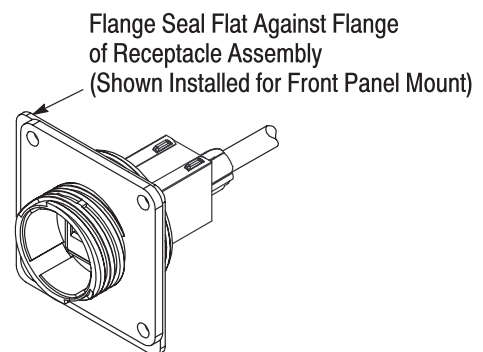

Figure 2
diameter end) of the receptacle assembly. Depress the locking tab, and insert the SL 110 jack into the receptacle assembly until there is an audible "click." Gently pull the cable to ensure that the SL 110 jack is fully seated. See Figure 2, Detail A.
3. Fit the flange seal over the mating face (small diameter end) of the receptacle assembly (for back panel mount) or the back of the receptacle assembly (for front panel mount) until it is flat against the flange. Make sure that the mounting holes align. See Figure 2, Detail B.